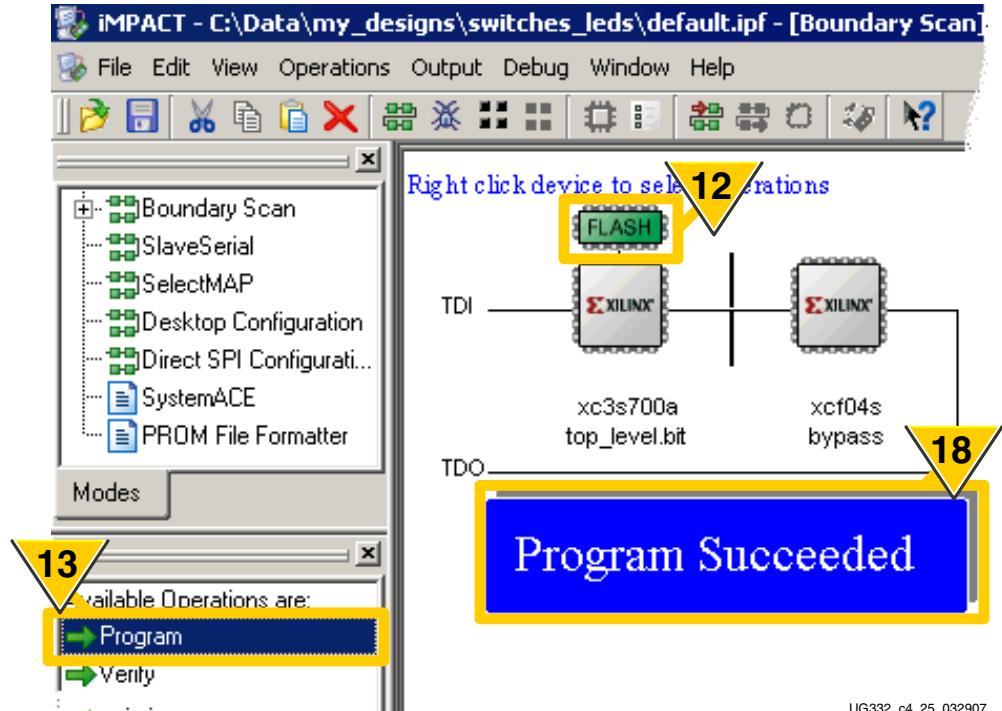

Figure 4-27: iMPACT Presents JTAG Chain, Shows Attached Flash PROM
- As shown in Figure 4-27, the iMPACT software then displays the JTAG chain for the XC3S700A Spartan-3A FPGA followed by the XCF04S Platform Flash PROM. Click to highlight the **FLASH** memory attached to the XC3S700A FPGA. This action enables the command options shown in Step 13.